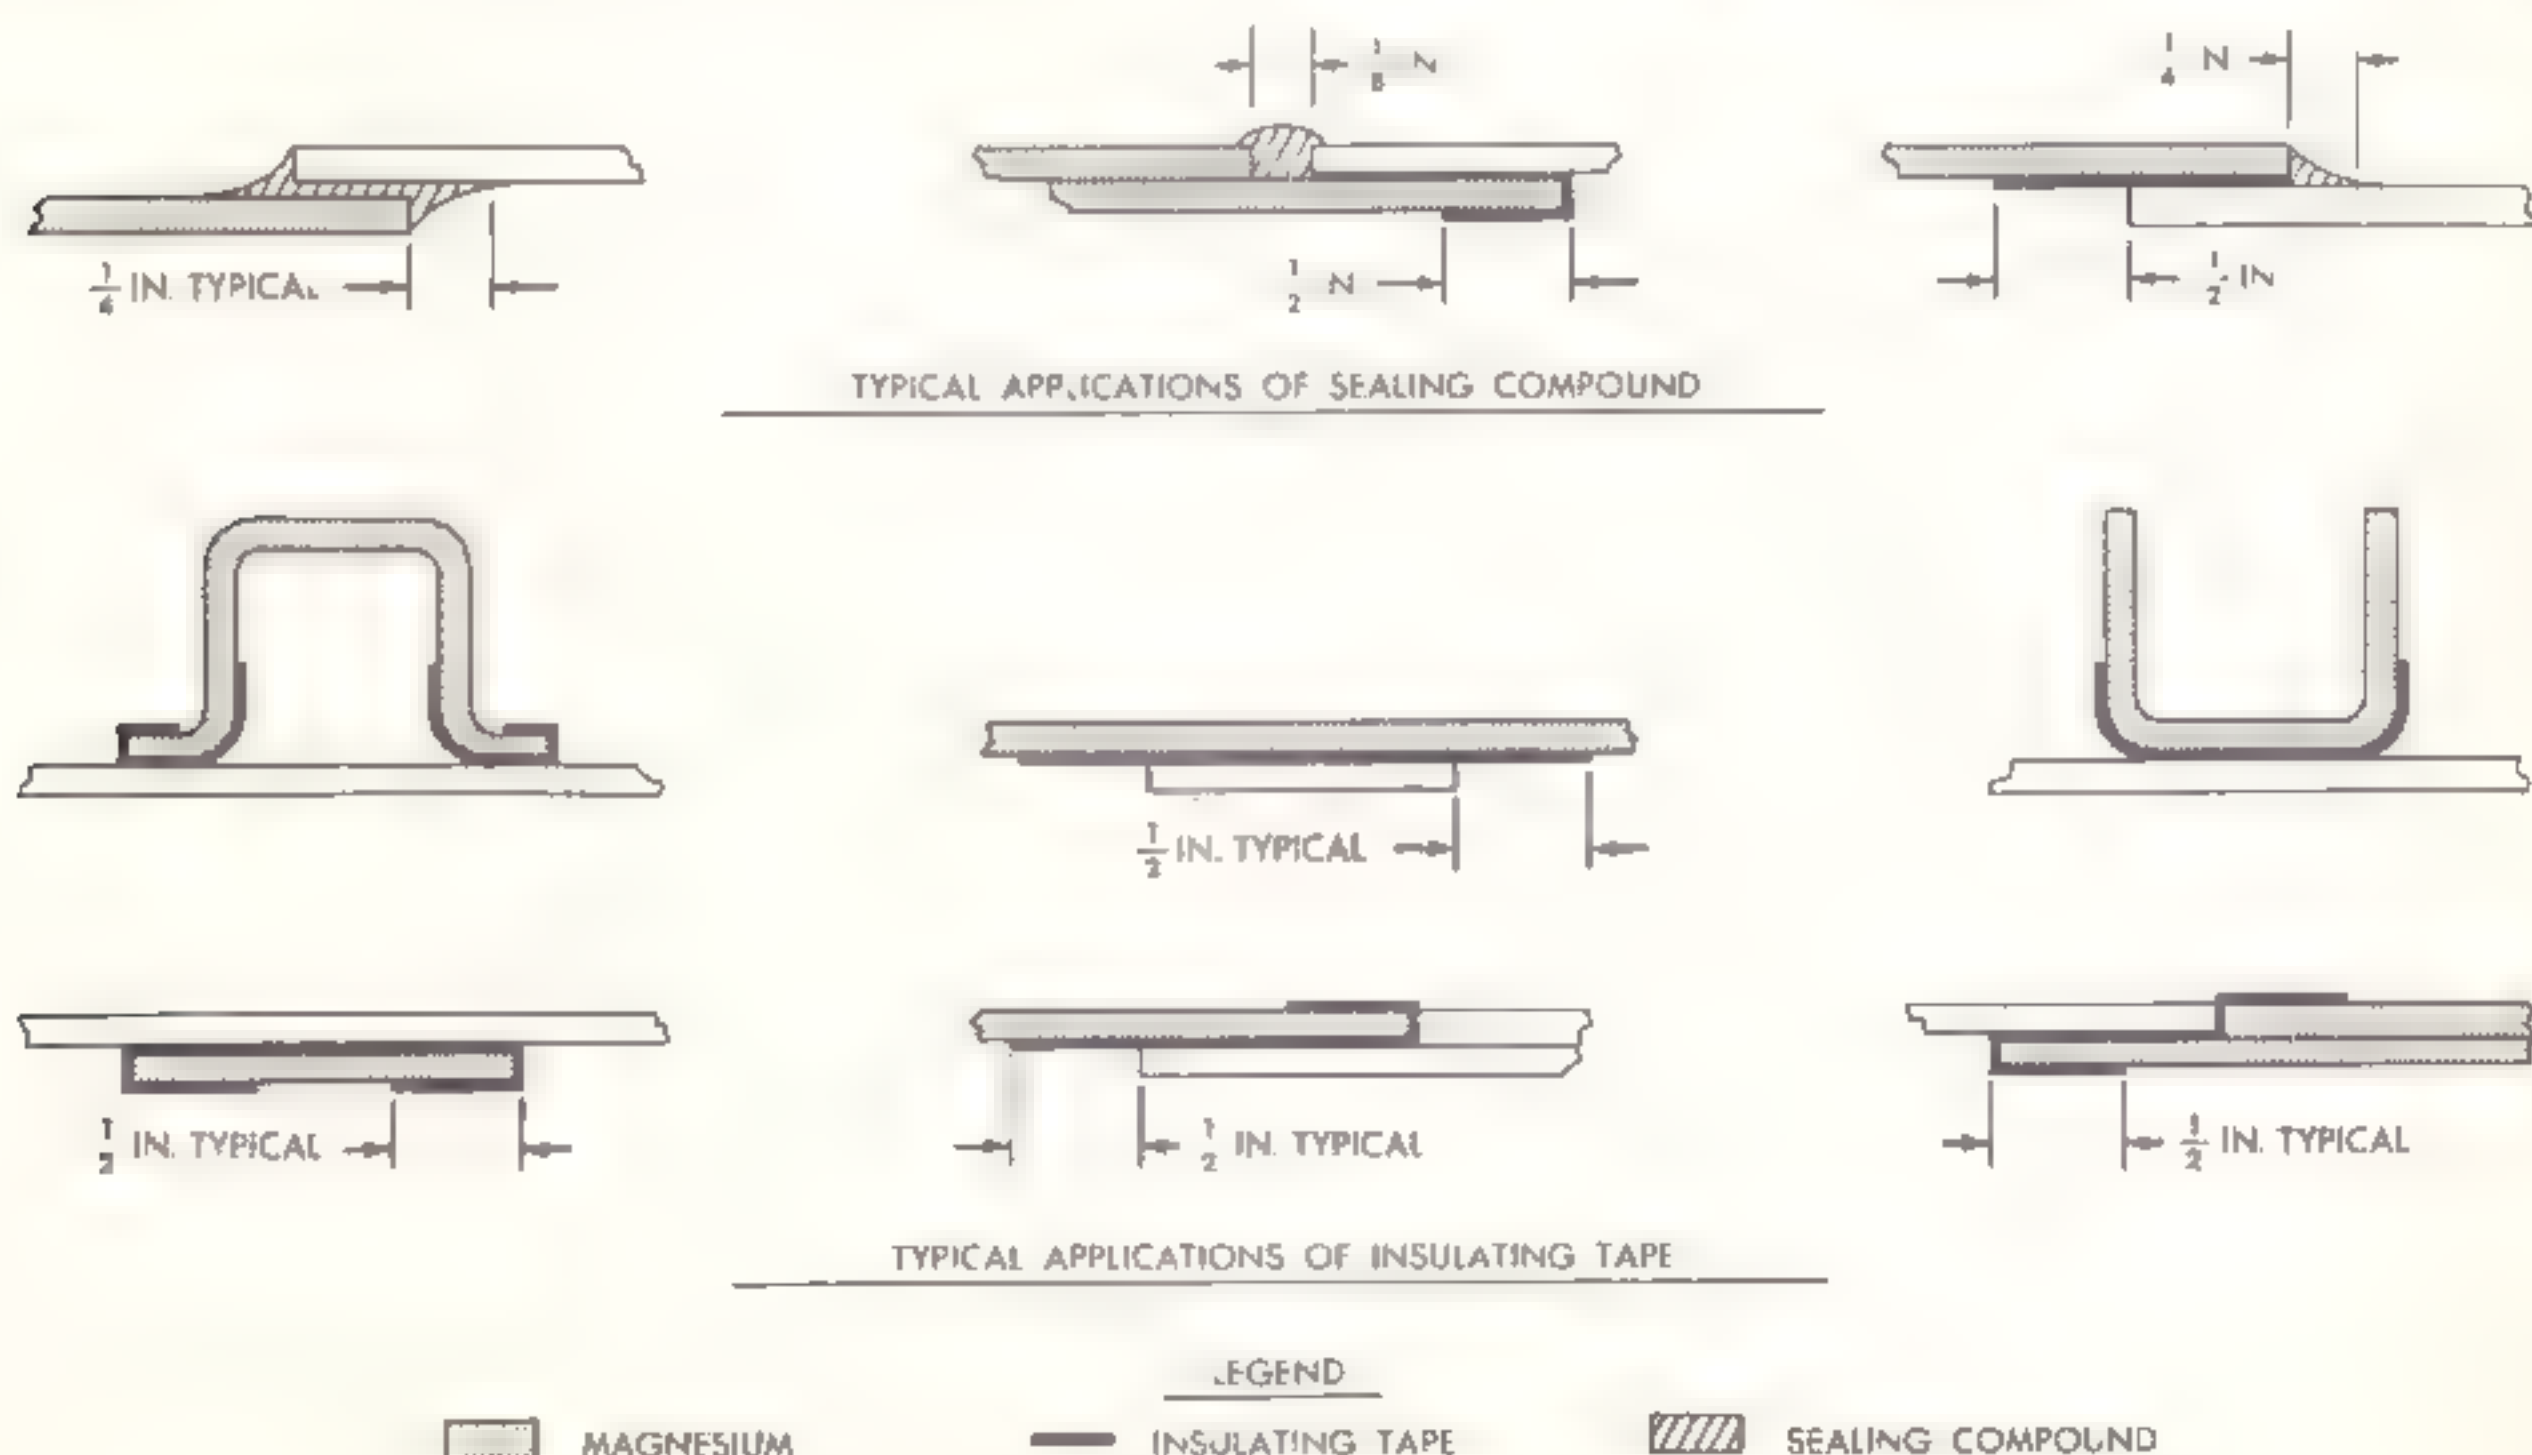

Figure 4-3. Application of insulating tape and sealing compound
Tape may be omitted only where its use would cause malfunctioning of the parts, where its thickness would preclude assembly, or where service temperatures exceed 148.9°C (300°F). The tape should extend approximately 1/2 inch, and in no case less than 1/4 inch, beyond joint edges, except on fillet-sealed or exterior laps where it should be flush with the joint. It should be applied prior to assembly and pressed firmly in place. The tape must present a smooth surface and be substantially free from air bubbles or wrinkles. To avoid creepback, the tape must not be stretched during application. Where practicable, the tape should be applied with the adhesive to the magnesium alloy surface and away from the direction of drilling. Heavier tape (item 36, table 1-8) (type I) should be used on applications such as screen installations where maximum protection against chafing is required. (See figure 4-3.)
squeezed out at all boundaries, and the excess removed so as to fillet all edges. Where the vinyl-plastic tape does not extend past lap joints, as on the exterior of the helicopter, the edge must be filleted with sealing compound. All fillet widths must be at least 1/4 inch. Butt joints, consisting of magnesium sheet and a dissimilar metal, must be protected by filling the groove with sealing compound. When there is no opening, the seam shall be grooved to a width of not less than 1/8 inch and filled with sealing compound. The sealing compound should be approximately flush with the surfaces of the adjacent dissimilar metals. For typical applications of sealing compound, see figure 4-3. The curing-type sealing compound should be prepared and applied in accordance with TM 55-405-3.